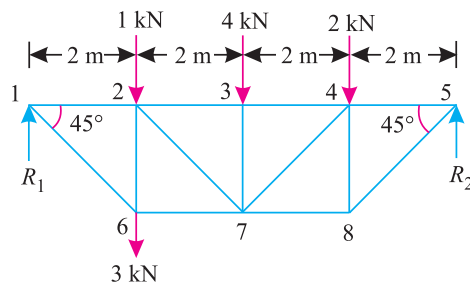

Fig. 14.11.
**Example 14.5.** A truss of 32 metres span is loaded as shown in Fig. 14.11.